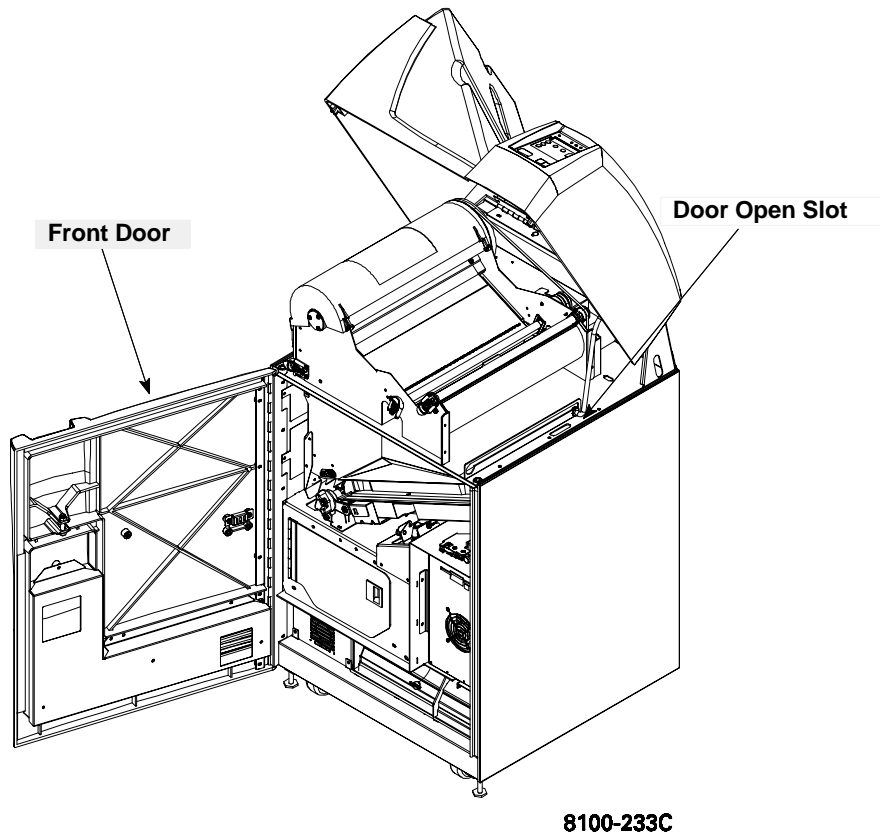

Figure 3-4. Opening the Front Door Manually
2. Insert a thin pencil (or other small instrument) into the slot on the right side of the processor base (see Figure 3-4).